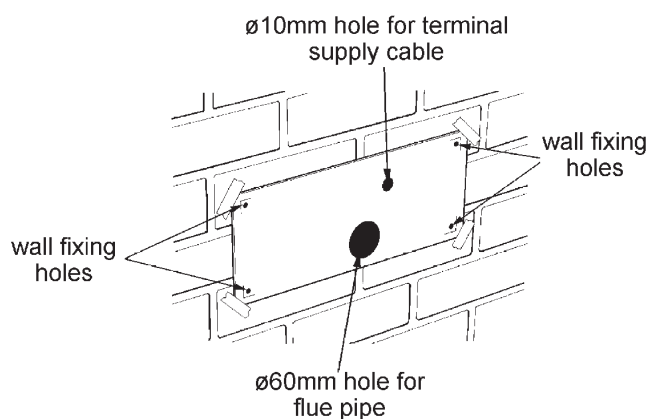

Fig. 15
2. Cut $\varnothing 60\text{mm}$ hole in the wall for the flue pipe (See Fig. 15).
3. Drill 4 wall fixing holes through template (1 in each corner). (See Fig. 15).